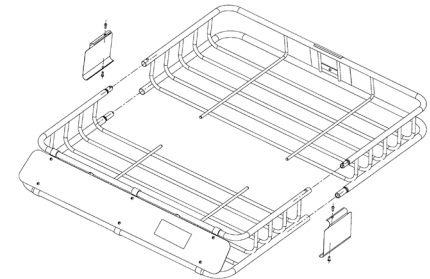

Fig. 1
1. Remove the side plates (#3) and M6*16 bolts (#2) from each side of the roof basket. Separate the two halves (Fig. 1)